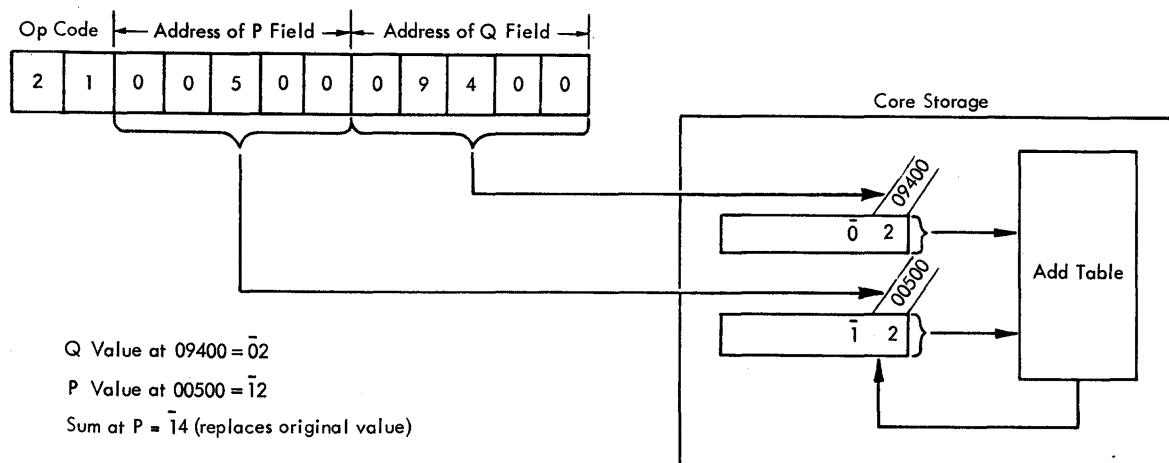

Figure 12. Add Instructions - Data Flow
In Figure 12, the sum (14) is "looked up" in the Add table and replaces the 12 at 00500 (P address). The field mark remains at the high-order position. When the sum is zero, the sign of the P field is re-
Description. The description is the same as that for Add (A-21) except that the data in the Q part of the instruction is used as the Q data. For example, if the Op core were 11 in Figure 12, the Q data would be $\bar{0}9400$ and the result would be 12 ($00 + \bar{1}2$). The three high-order positions of the Q data ($\bar{0}94$) are not used because the P-data flag bit (above the one in 12) stops the add operation. The Arithmetic Check indicator is turned on because the Q data field ($\bar{0}9400$) exceed the two digits of data ($\bar{1}2$) contained in the field defined by the P address (00500).